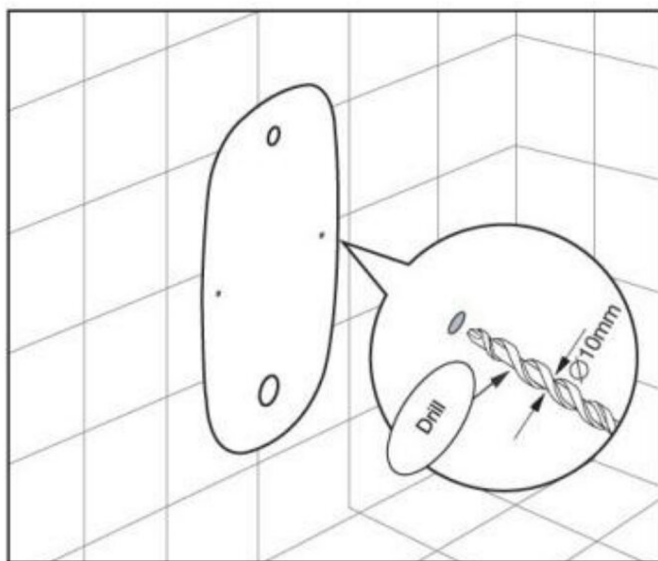

Fig. 4
2. Mark hole centres through template onto wall to provide wall locations for two 'L' shaped brackets (Fig 4).